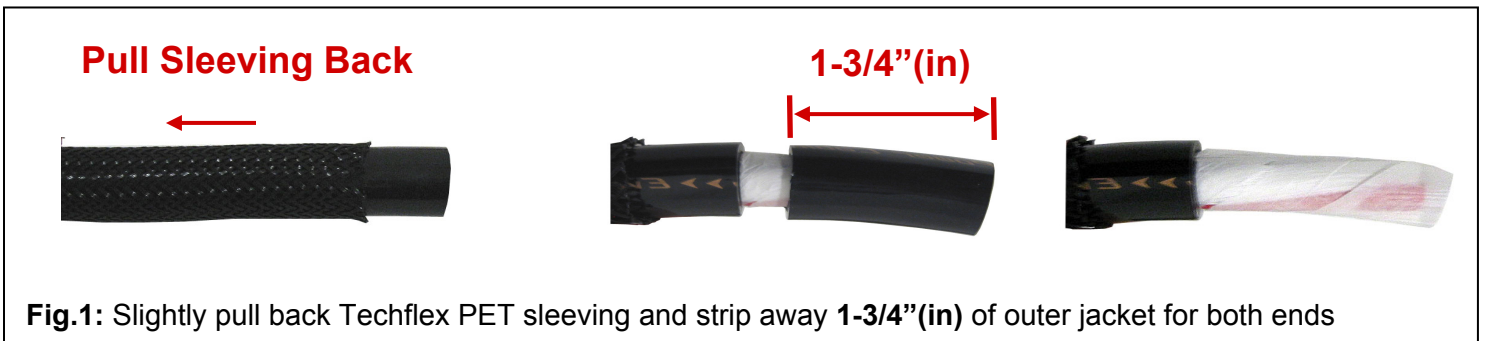

Fig.1: Slightly pull back Techflex PET sleeving and strip away 1-3/4"(in) of outer jacket for both ends
1. Take 6'(ft) Xsymphony Power One wire and pull back Techflex PET sleeving slightly... then strip away 1-3/4"(in) of the outer jacket for both ends (Fig.1)